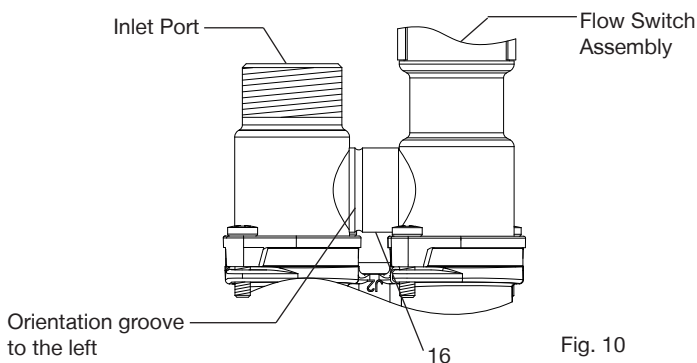

Fig. 10
Note – For correct operation the NRV assembly (item 16) must be fitted with the orientation groove to the left (inlet port side) as shown in Fig. 10.